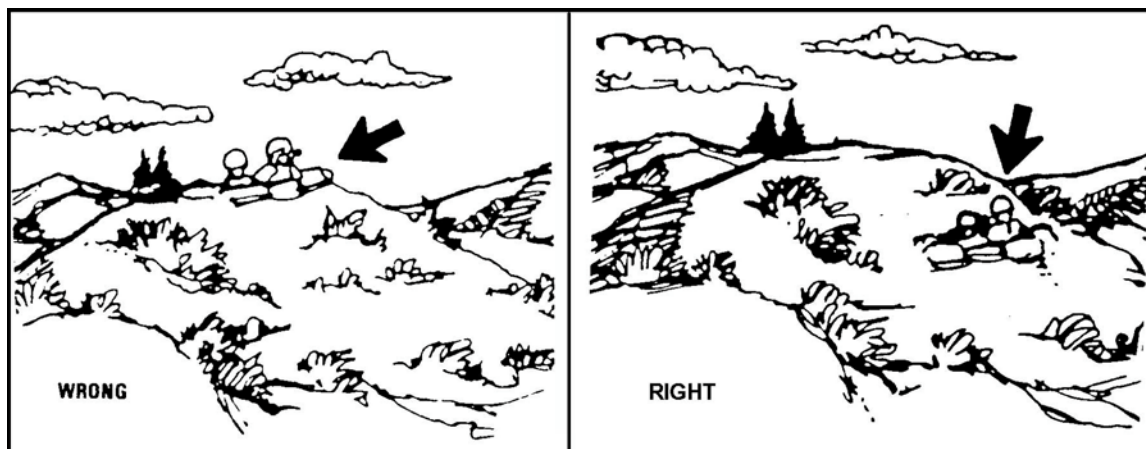

Figure 1. OP position.
- (1) Maximum observation of the desired area (specified by the platoon leader).
- (2) Cover and concealment for the occupants of the OP.
- (3) Concealed routes to and from the OP.
- c. Usually, the best location for an OP is on or near the military crest of a hill. Topographical crests should be avoided because of the possibility of being skylined. It may be appropriate to establish the OP well down the forward slope when observation is restricted by the terrain (Figure 1).